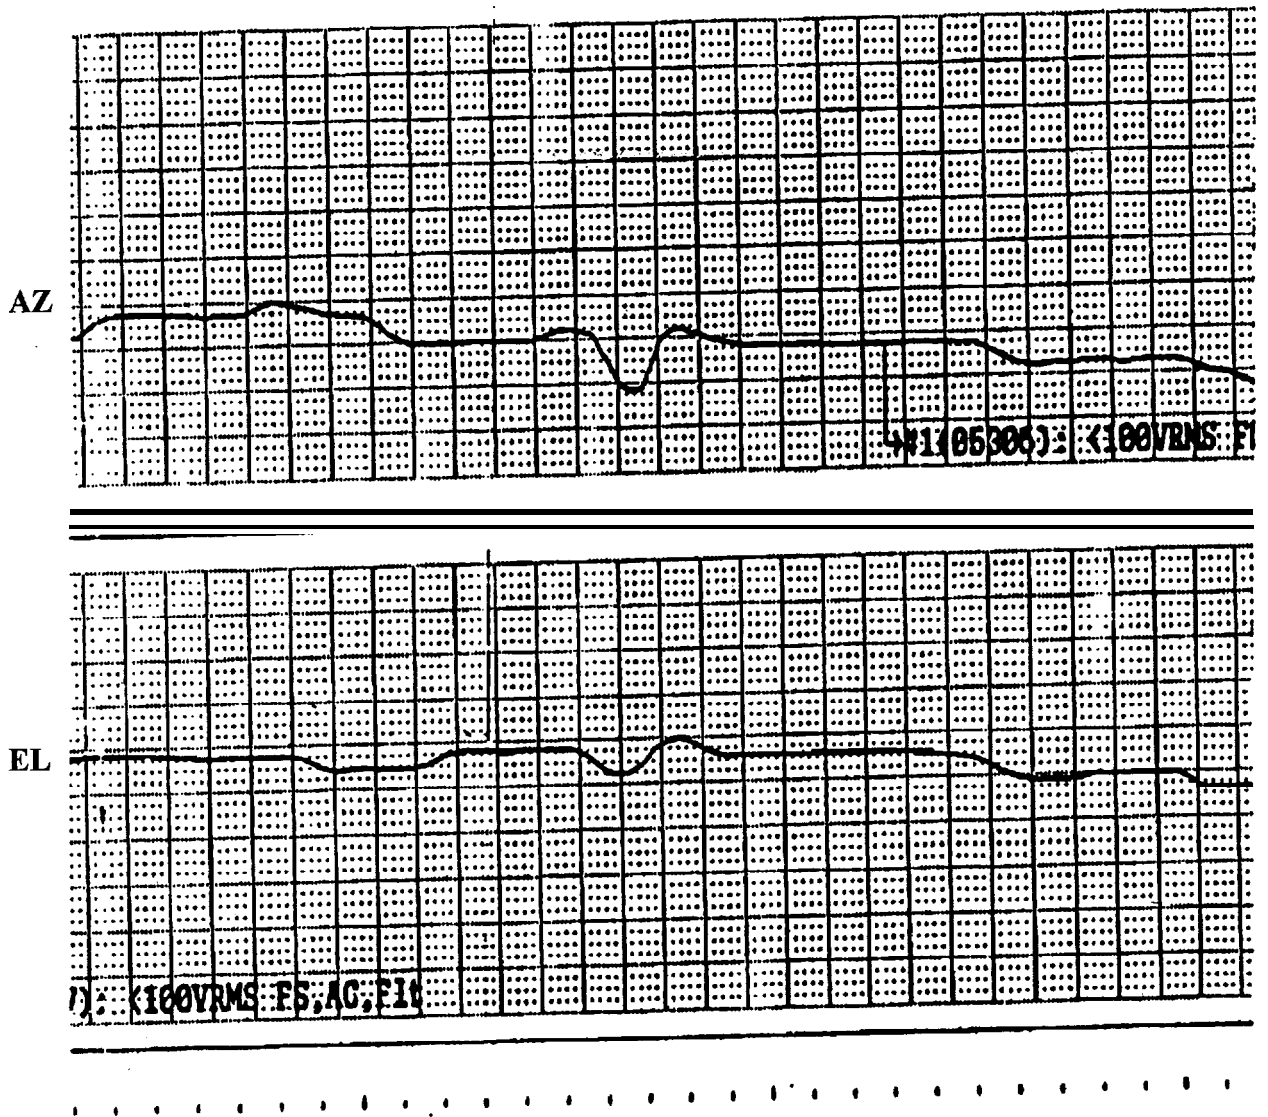

Figure 5-15 Incorrect System Phasing
5.19 System Phasing, - Figure 5-15 shows the effects of poor system phasing. System phasing provides the elevation and azimuth directional reference to the ART positioning system. Note the general indication of instability in both channels. Observe that errors in one channel induce errors in the other channel as the antenna attempts to acquire a lock on the radiosonde.